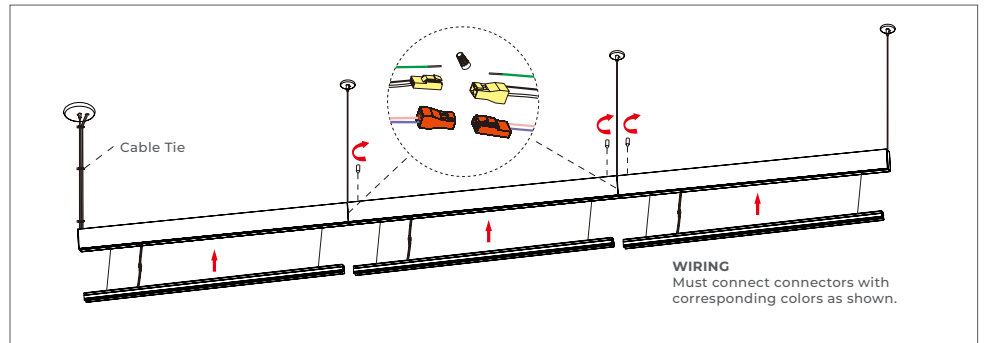

FIGURE 4-6
4) Repeat steps for each fixture. Use zip tie to fix the aircraft cable to the power cord. Make connections using quick connectors. Insert all LED modules in the housing from Start-of-Run to End-of-Run. (Figure 4-6)